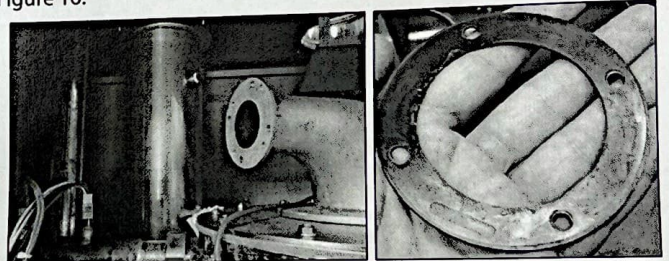

Figure 15 - Exposed Air Channel
Step #5 - Use a 4mm allen wrench to remove the four (4) screws and nuts connecting the blower to the air channel. See Figure 15.